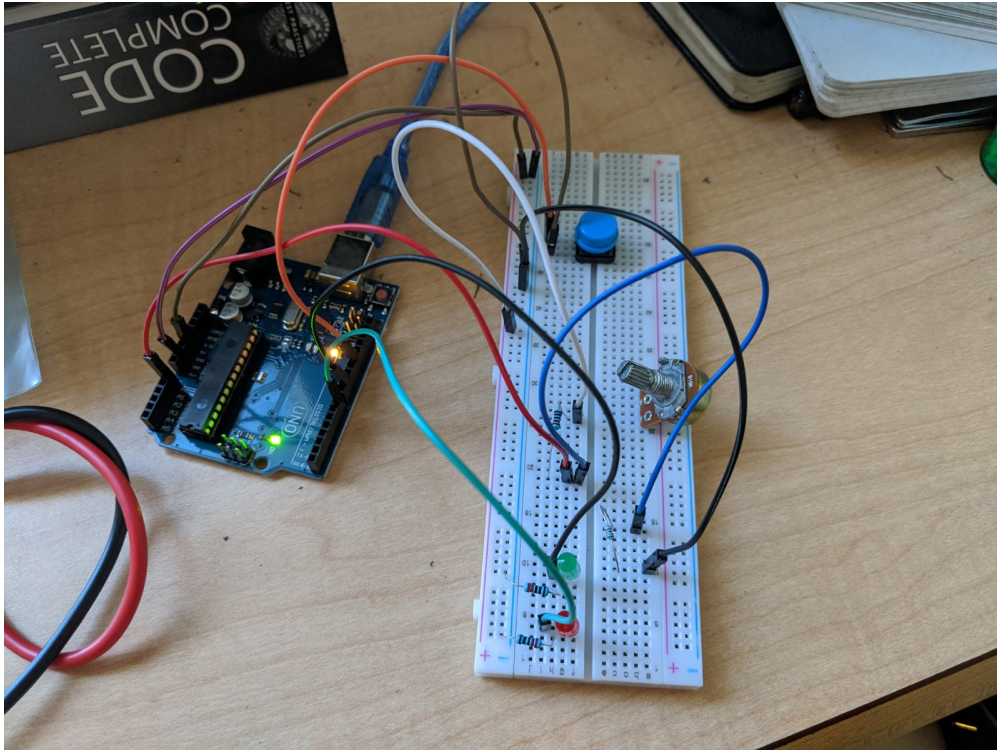

Figure 4: The circuit with a load between the two electrodes. Note that neither LED is lit.
- p. A green LED was added to the Arduino and the code was modified to turn the LED on when an open is detected. See Figures 4, 5, and 6.